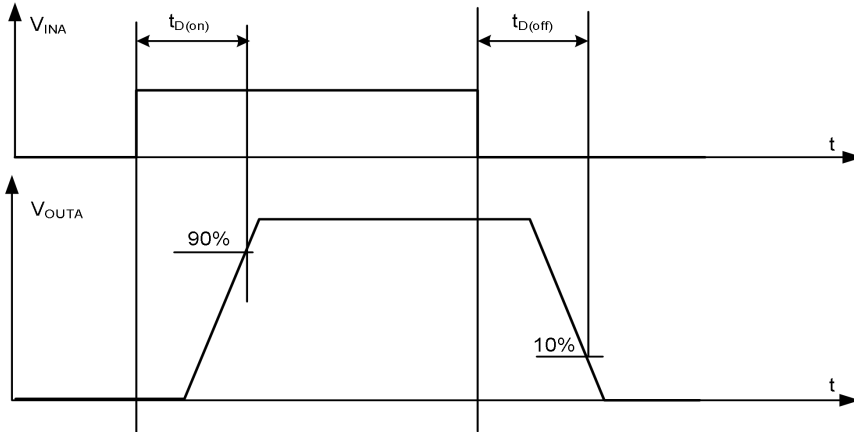

Figure 5. Definition of the high-side switching times
- (5) See Figure 5.
- (6) Guaranteed by design.